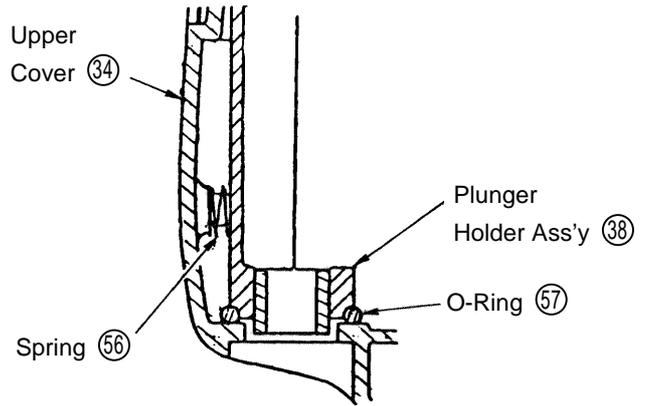

Fig. 19
- the teeth of the Gear (50)
- the slide contact portions of the Balance Weights (48)
- inside of the Needle Roller (44)
- inside of the Connector (42)
- the slide contact portions of the plunger (58)
- the Plunger Holder Ass'y (38) surfaces in sliding contact with the Connector (42)
- (7) When installing the Plunger Holder Ass'y (38) in the Upper Cover (34), ensure that the O-Ring (57) is properly mounted at the lower portion of the Plunger Holder Ass'y (38), as shown in Fig. 19. Also, ensure that the two Springs (56) are properly mounted between the Plunger Holder Ass'y (38) and the Upper Cover (34).